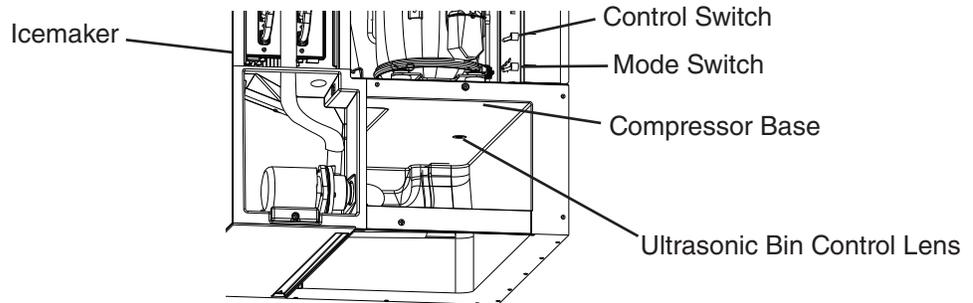

Fig. 12a
7) 1 min. fill cycle begins. Place an object 5" to 7" (127 to 178 mm) away from the bin control lens. See Figs. 12a, 12b, and 12c. 15 sec. later, the icemaker shuts down. Remove the object from the bin control lens. 30 sec. later, the icemaker restarts. For bin control shutdown times per cycle, see the table below: